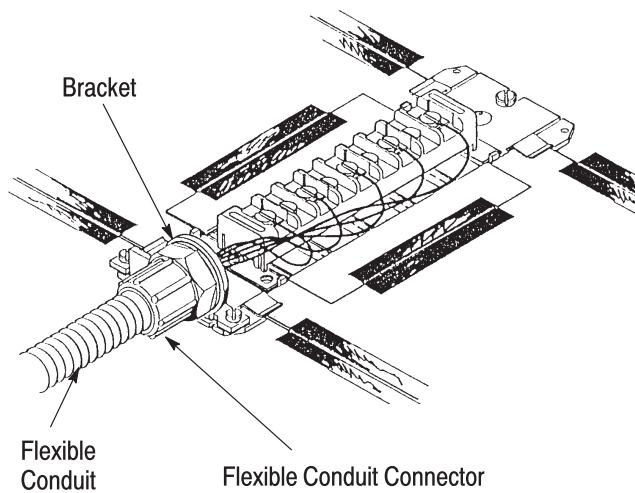

Figure 7
9. Mount bracket on mounting plate and install flexible conduit to bracket. See Figure 7.